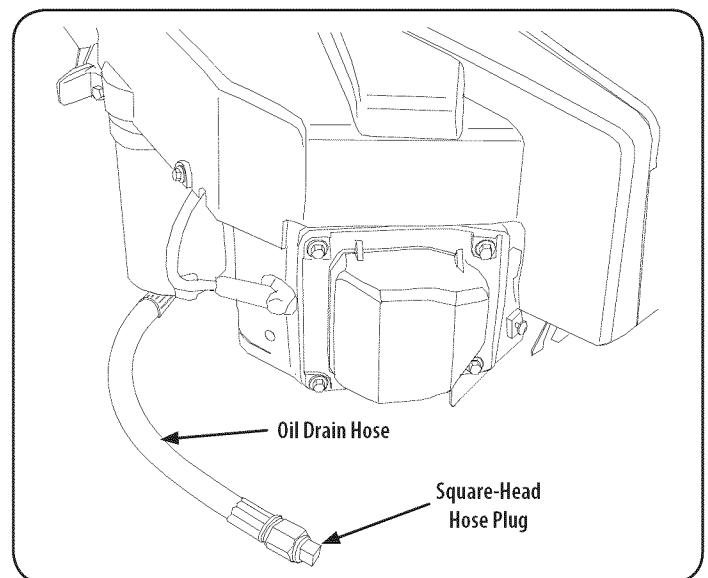

Figure 21
- Locate the oil drain hose on the left side of the engine. See Figure 21.
4. While holding the free end of the oil drain hose over the oil collection container, unscrew the square head hose plug from the end of the hose. See Figure 21. Drain the engine oil into the collection container.